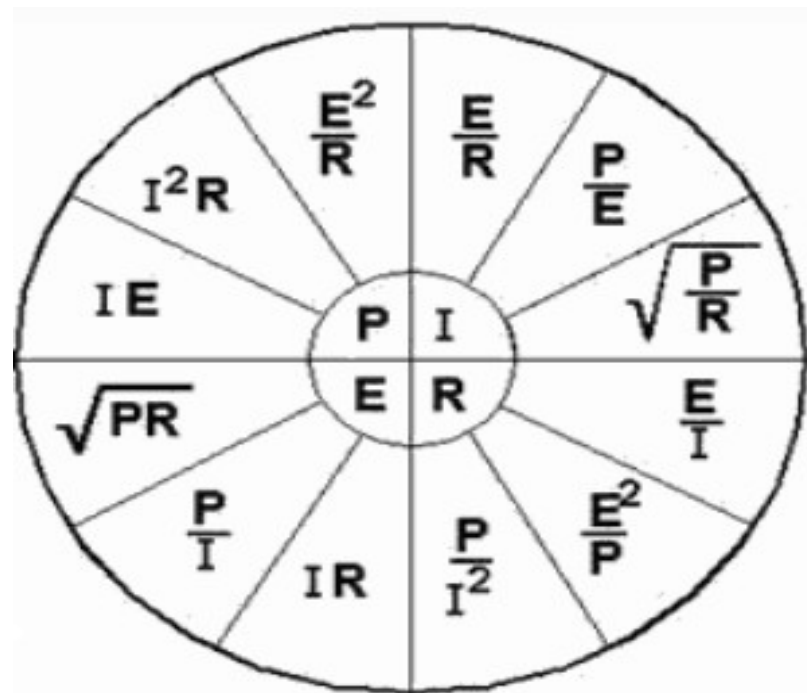

Figure 1-9.—Summary basic formulas.
- The easy-to-use diagram, Figure 1-9, (at the right) can be used for solving for each of the four unknown variables: